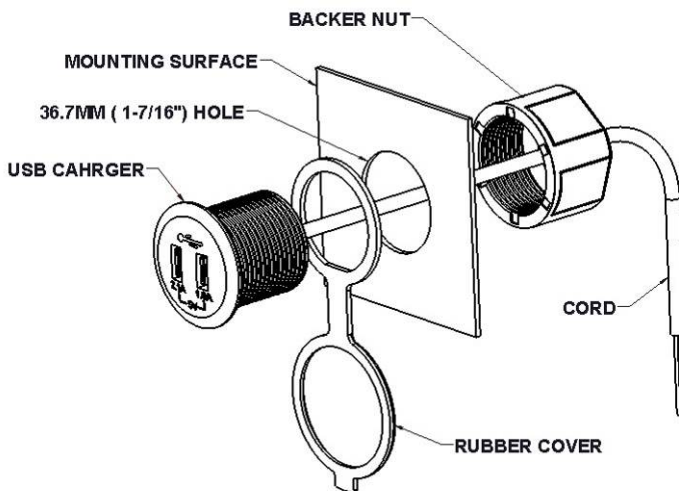

FIG. 2
2. GUIDE THE CORD FROM THE BACK OF THE USB CHARGER THROUGH THE RUBBER COVER, THE PANEL AND THE BACKER NUT. SEE FIG. 2